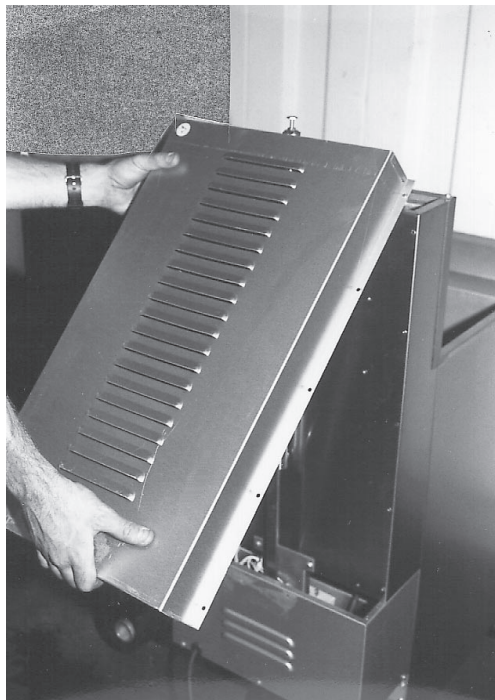

Fig. 57
5. Lift back up and over the lift mechanism. (Fig. 57)